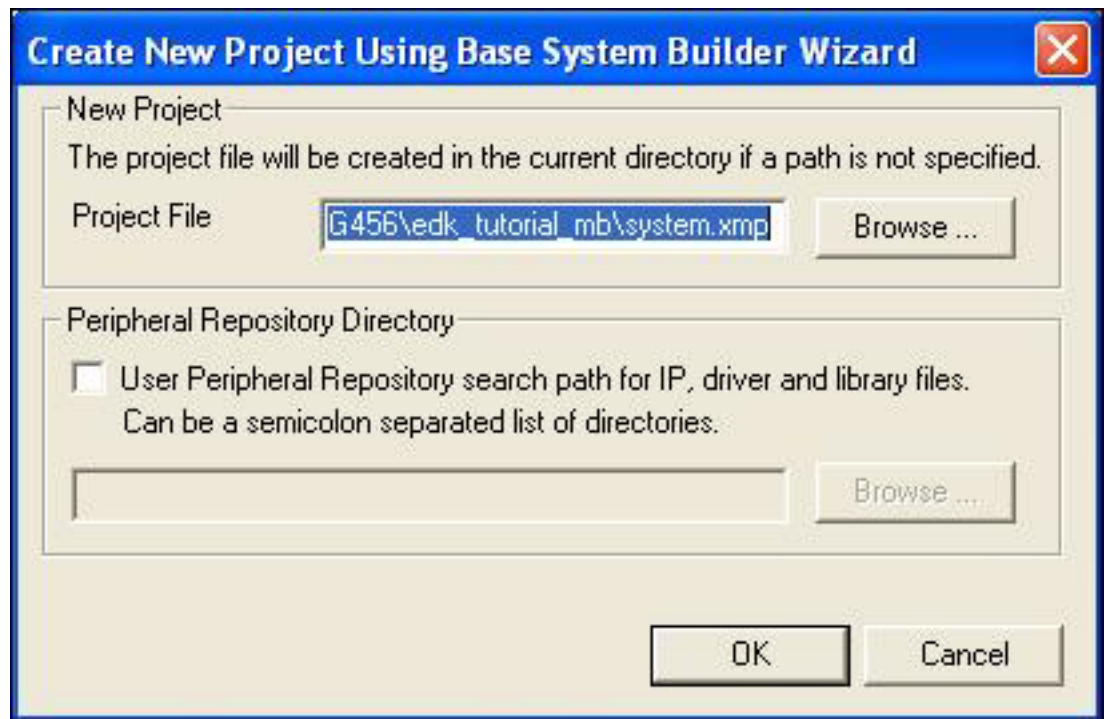

Figure 2: Create New Project Using Base System Builder Wizard
2. **Select File → New Project → Base System Builder (BSB)** to open the Create New Project Using BSB Wizard dialog box shown in figure 2.